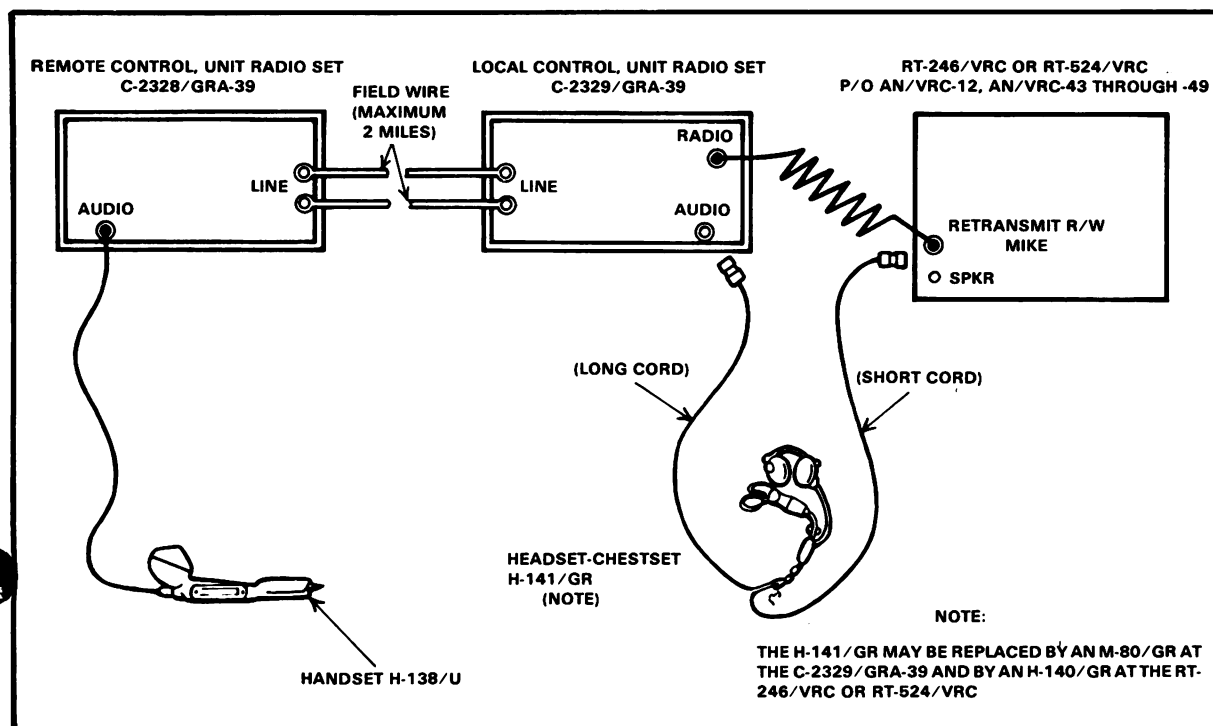
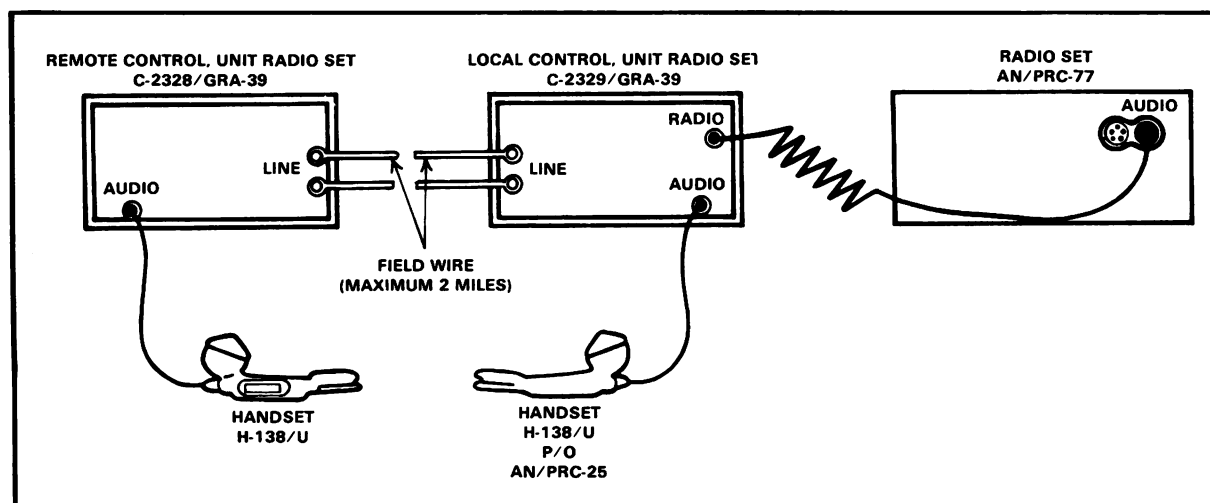

Figure 3. Radio Set Control Group AN/GRA-39 connected to Receiver-Transmitter RT-246/VRC or RT 524/VRC.
Figure 4. Radio Set Control Group AN/GRA-39 connected to Radio Set AN/PRC-25.
3. Connect Local Control Unit C-2329/GRA-39 to Radio Set (figure 3).
- a. Position local control unit next to radio and connect local control unit radio cable to RETRANSMIT R/W connector (RT-246/VRC or RT-524/VRC (figure 3)) or the audio connector (AN/PRC-77 (figure 4)).
4. Connect Remote Control Unit C-2328/GRA-39 (figure 4).